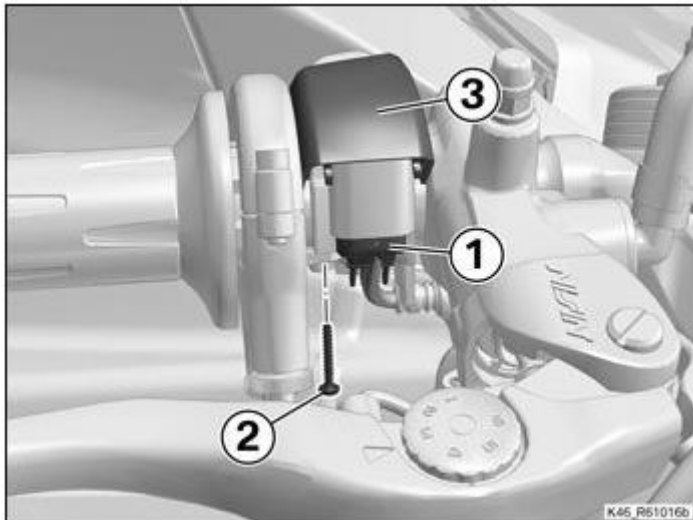

Fig. 9
- Loosen the connector (1) of the switch unit
- Loosen the screws (2) and then remove the switch unit (3) (Figure 9)